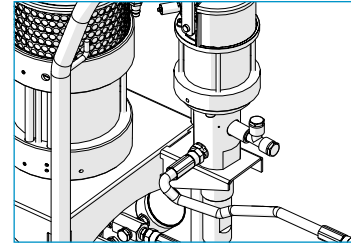

Fig. 15 Connecting to the flushing pump
1. Mount the yellow flushing agent hose on the material outlet of the flushing pump, see Fig. 15.